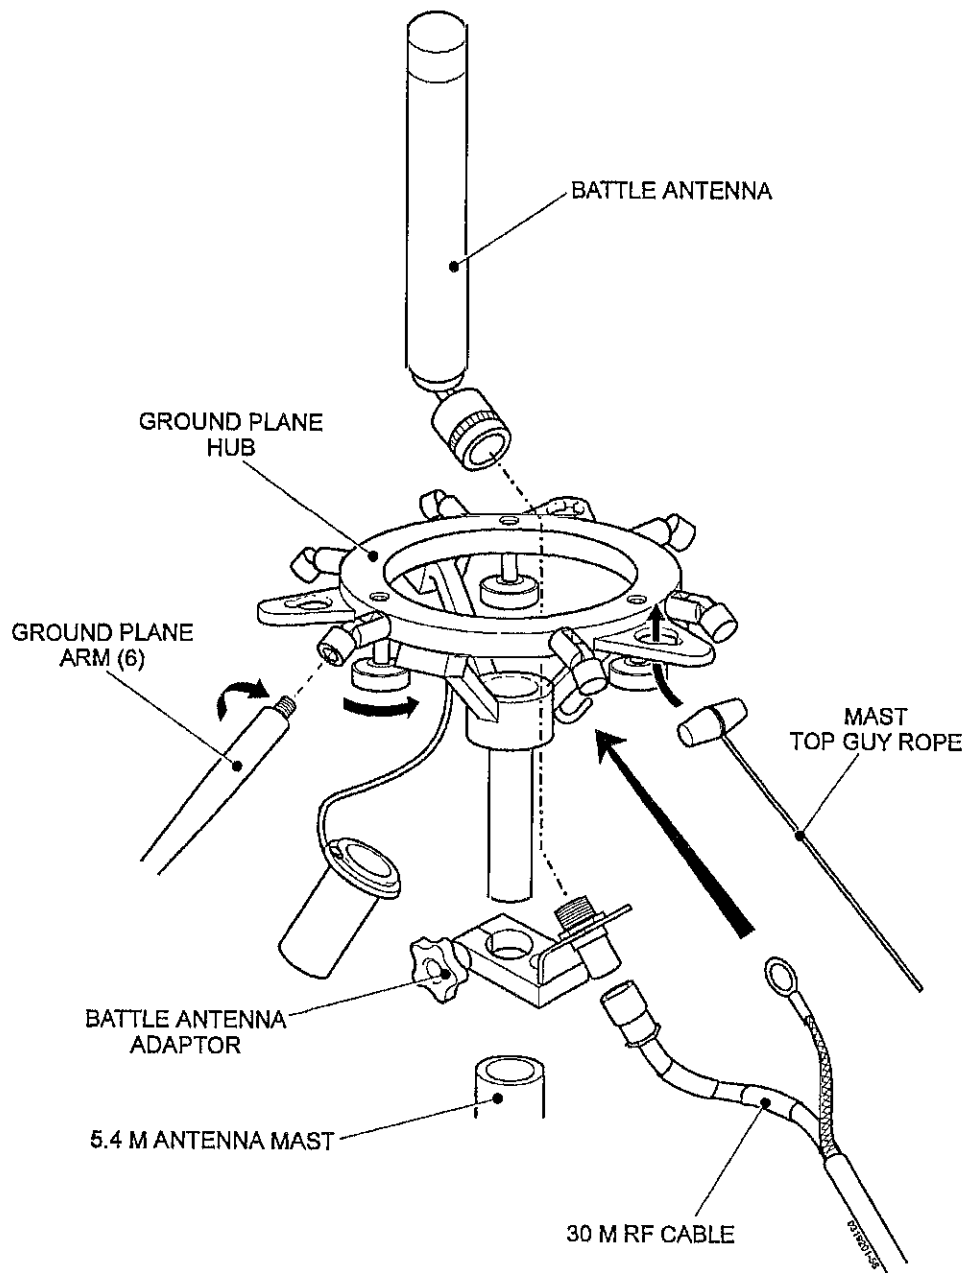

Fig 27 Manpack station ground plane assembly - deployment
98.2 Refer to Fig 27 and assemble the ground plane, battle antenna adaptor, V/UHF battle antenna and 15 m RF cable to the mast as follows: